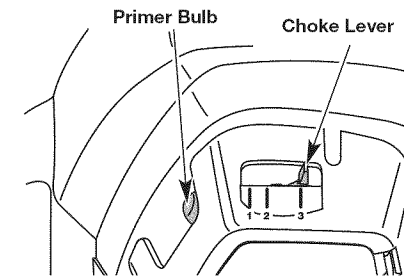
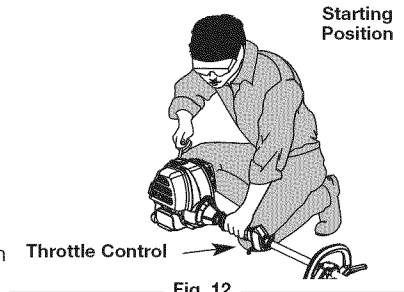

Fig. 11
Fig. 12
WARNING: Avoid accidental starting. Make sure to be in the starting position when pulling the starter rope (Fig. 12). To avoid serious injury, the operator and unit must be in a stable position while starting.
3. Fully press and release the primer bulb 10 times, slowly. Some amount of fuel should be visible in the primer bulb and fuel lines (Fig. 11). If fuel cannot be seen in the primer bulb, press and release the bulb until fuel is visible.
4. Place the choke lever in **Position 1** (Fig. 11).
5. Crouch in the starting position (Fig. 12). Press the throttle lockout in and fully squeeze the throttle control lever. Pull the starter rope 5 times.
6. Place the choke lever in **Position 2** (Fig. 11).
9. Continue squeezing the throttle control, move the choke lever to **Position 3** (Fig. 11) and continue warming the engine for an additional 60 seconds. The unit may be used during this time.
IF... the engine hesitates, return the choke lever to **Position 2** (Fig. 11) and continue warm-up.
5. Crouch in the starting position (Fig. 12). Place the electric starter or power start bit into the back of the unit. Refer to the *Operation section of the Electric Starter or Power Start Bit™* operator's manual.
6. Press the throttle lockout in and fully squeeze the throttle control lever. Press and hold the electric starter or drill ON (I) button for 2 seconds.
7. Place the choke lever in **Position 2** (Fig. 11).
8. While pressing the throttle lockout in and squeezing the throttle control, press and hold the electric starter or drill ON (I) button for 2 second intervals until unit starts.
10. Continue squeezing the throttle control, move the choke lever to **Position 3** (Fig. 11) and run the unit for an additional 60 seconds. The unit may be used during this time.